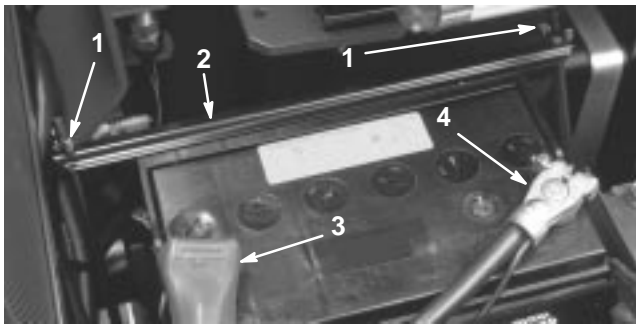

Figure 6
- Remove two wing nuts and hold down strap that secures battery (Fig. 6). Lift battery out of chassis. Keep wing nuts and hold down strap in safe place for later use.
1. Install battery and secure with hold down strap and wing nuts (Fig. 6). Remove tape over ends of each cable.
2. Slide the red, positive battery cable (Fig. 6) onto positive battery post and tighten nut securely.
3. Slide the black, negative battery cable (Fig. 6) onto negative battery post and tighten nut securely.
4. Coat both battery connections with either Grafo 112X (skin-over) grease, Toro Part No. 505-47, petroleum jelly or light grease to prevent corrosion and **slide rubber boot over positive terminal** (Fig. 6).